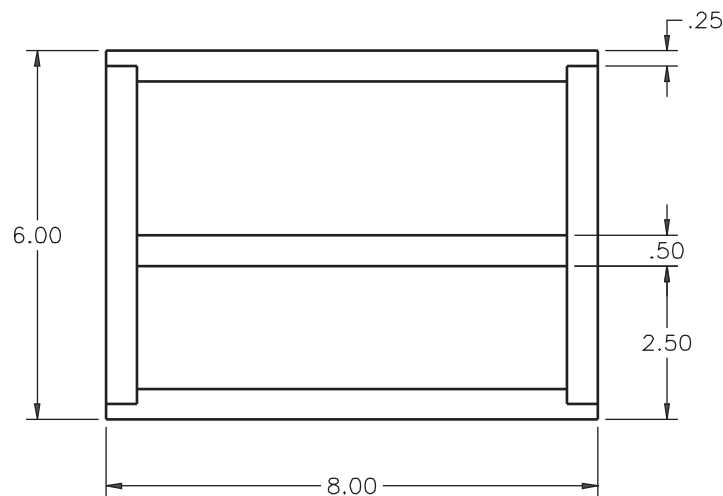

Fig. 9-3
1. It's time to build the bookcase you designed in Chapter 4. Make a copy of the bookcase you saved in your named folder as **prb4-1.dwg**. Modify the drawing as shown in Fig. 9-3 and save the modification as **bookcase.dwg**. Delete the copy of **prb4-1.dwg**.